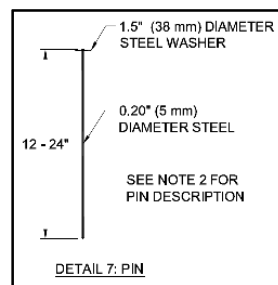

Figure 4: Securing Pin
3. Secure ARMORMAX with pins and Secondary anchors in the COS trench. Pins should be made of steel with a 0.20 in (5 mm) minimum diameter, having a 1.5 in (38mm) diameter washer at the head, and a length between 12 and 24 in (300-600 mm) with sufficient ground penetration to resist pullout (Figure 4). Longer pins may be required for looser soils. Heavier metal stakes may be required in rocky soils. Suggested placement of pins and Secondary anchors for the COS trench is along the bottom of the trench with pins on 12 in (300 mm) centers in between Secondary anchors on 4 ft (1.2 m) centers. Secondary anchors should also be installed on panel edge overlaps in the COS trench.